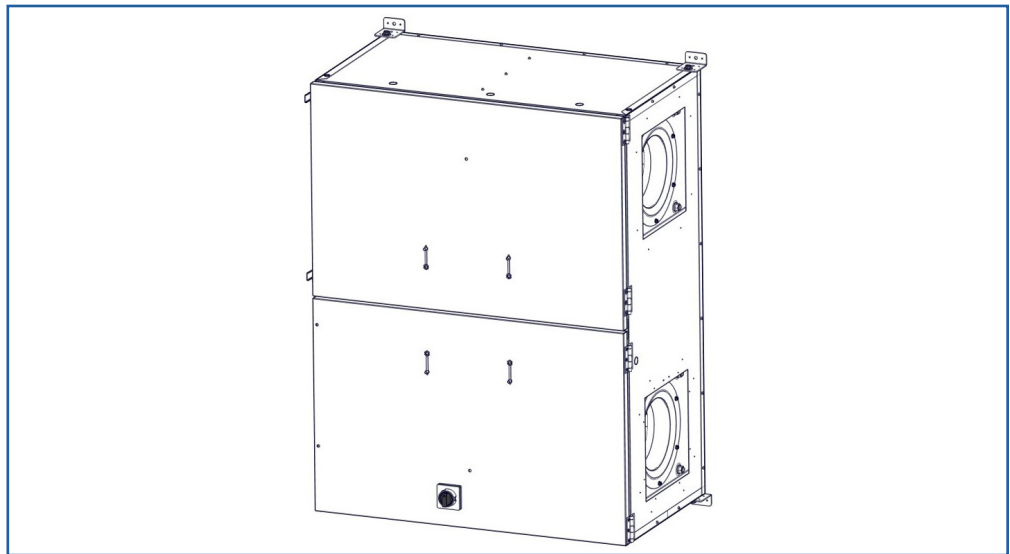

FIGURE 5.3.1 HANGING BRACKET KIT
The HE07IN–HE15IN can also be mounted to structural members using the Hanging Bracket Kit, available as an accessory. Remove the four adjustable legs and use the included 3/8"-16 bolts and washers to attach the hanging brackets to the unit as shown in Figure 5.3.1. The hanging brackets may be attached directly to a structural member or used in combination with threaded rod and the hanging vibration isolators (see Section 5.3.4). If the spacing of the unit mount points does not fit the application, the hanging brackets may alternatively be attached directly to the cabinet using (16) #12 x 3/4" long self-tapping sheet metal screws (not provided). Ensure that the unit is adequately supported at all four corners and that the placement of the brackets maintains required service clearances.